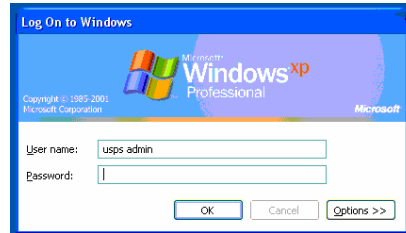

Figure 1-253. Login as 'usps admin'
14. Continue holding the **Shift** key until the “Log On to Windows” popup is displayed (Figure 1-253).